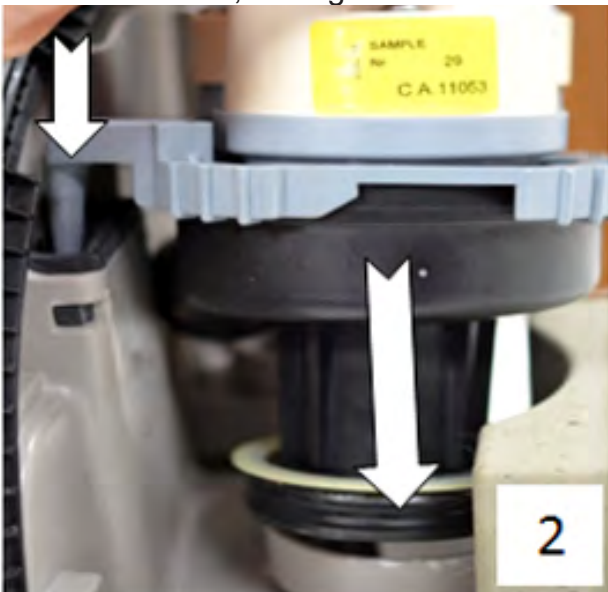

Figure 2
2. Install motor, see figure 2.